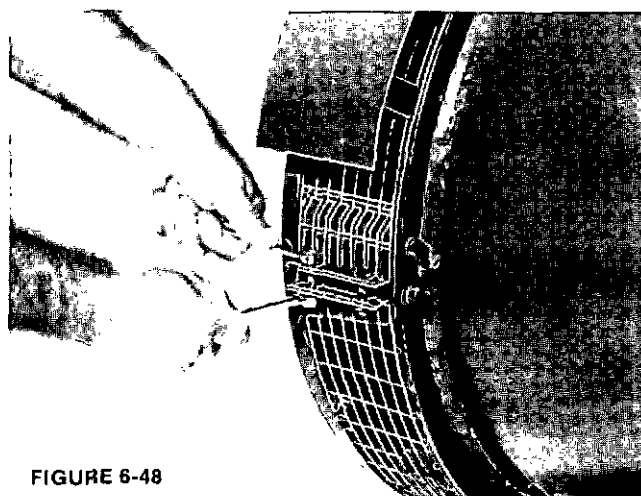

FIGURE 6-48
2. a. For single bearing generators, if the screen assembly is mounted on the adapter, remove the mounting bolts and remove the screen. (Figure 6-48.) (NOTE: Do not remove the drip cover from the screen assembly if so equipped.) Insert two guide pins in the flywheel and two in the flywheel housing. Adjust the generator position until the drive discs are piloted in the flywheel. Remove the guide pins and secure the discs with Grade 8 place bolts and hardened washers or Grade 8 capscrews and heavy series lockwashers. Torque per specifications given in section 12.